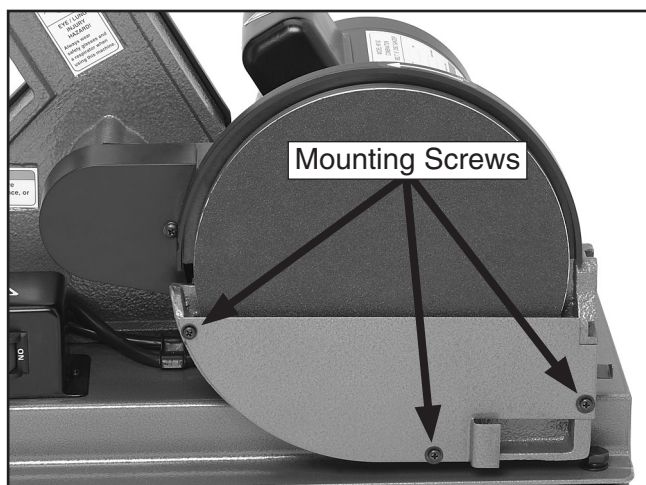

Figure 14. Disc dust cover installed.
14. Install the disc dust cover, as shown in **Figure 14**, with three M4-.7 x 10 Phillips head screws and flat washers.